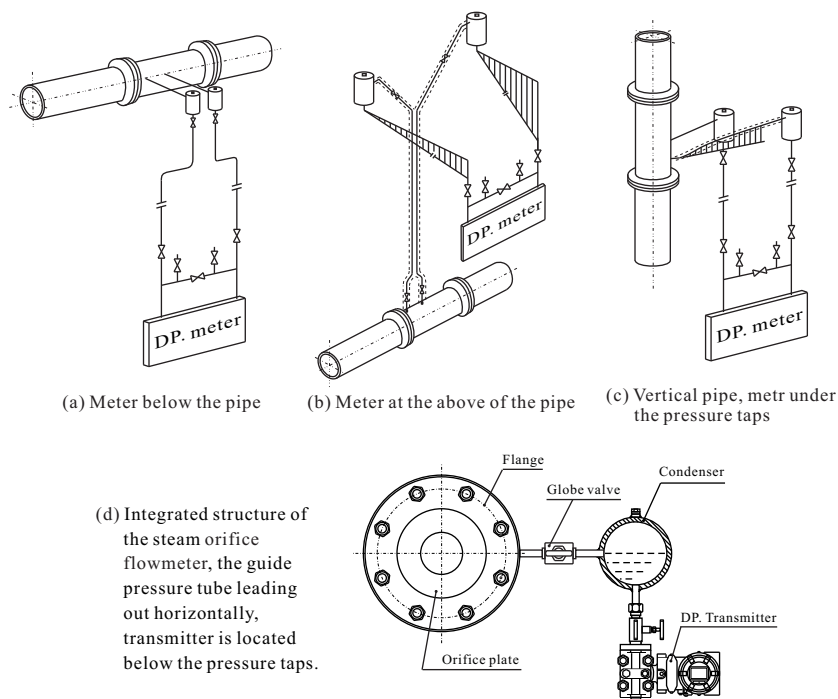

Figure 6.2.4 The signal line installation diagram of measuring steam flow
When the measured fluid is steam, the method of installation of the signal pipeline is shown in Figure 6.2.4.
- (1) The differential pressure transmitter is preferably installed under the orifice flowmeter, the condenser could be installed at the top of pressure guide tube and there should be an exhaust plugs (or exhaust valve) to be installed in the upper half of condenser, as shown in figure 6.2.4(a).
- (2) If the differential pressure transmitter was installed on the above of orifice flowmeter, then the steam pressure guide tube should be upwardly, then bend the condensate pressure guide tube downwards after installed the condenser at the highest position of pressure guide tube. The zero displacement will be happened if the height of positive and negative condenser were different, so the operator should ensure the positive and negative pressure condenser with the same level height. The positive and negative pressure steam pressure guide tube should be laying as close as possible to reduce the influences caused by temperature, and the thermal insulation is suggested for steam pressure guide tubes. As shown in figure 6.2.4(b).
- (3) If the differential pressure transmitter was installed in the vertical pipeline, then the zero displacement will be happened if the height of positive and negative condenser were different. The operator could bend the pressure guide tube upward until it parallel and level with upper pressure guide tube, then leading it out horizontally. The operator should ensure the positive and negative pressure condenser with the same level height. The positive and negative pressure steam pressure guide tube should be laying as closer as possible to reduce the influences of caused by temperature, and the thermal insulation is suggested for steam pressure guide tubes. As shown in figure 6.2.4(c).
- (4) For integrated type orifice flowmeter, if it was installed on horizontal pipeline, then the pressure guide tube should be horizontal leading out, and the differential pressure transmitter should be located under the pressure taps, as shown in figure 6.2.4(d); if it was installed on vertical pipeline, the operator should carry out the suitable method to avoid the zero displacement, because of the height of positive and negative pressure taps are different.